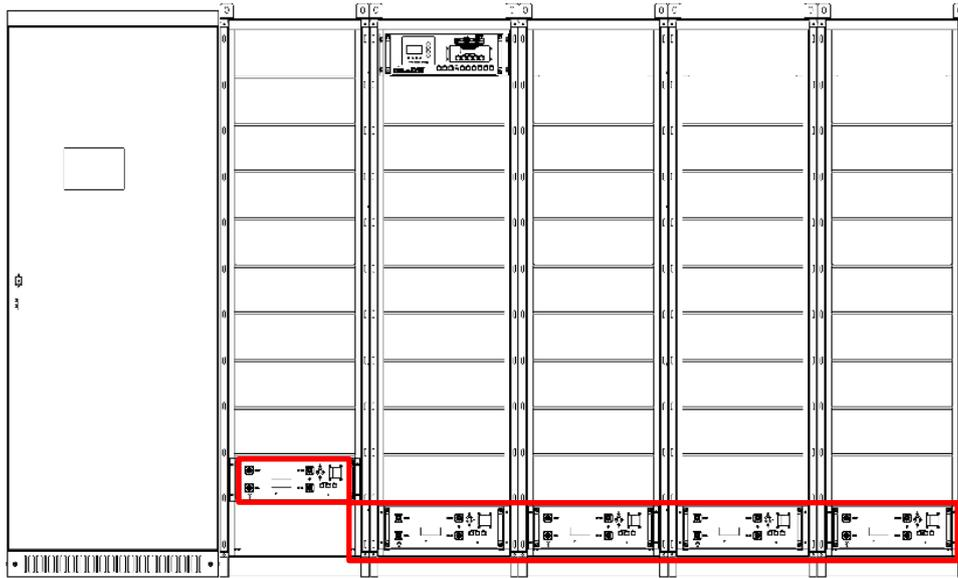

Figure 4.9 HV900112 boxes installation
b. Put all the HV900112 boxes in the right places as Figure 4.9 shows.